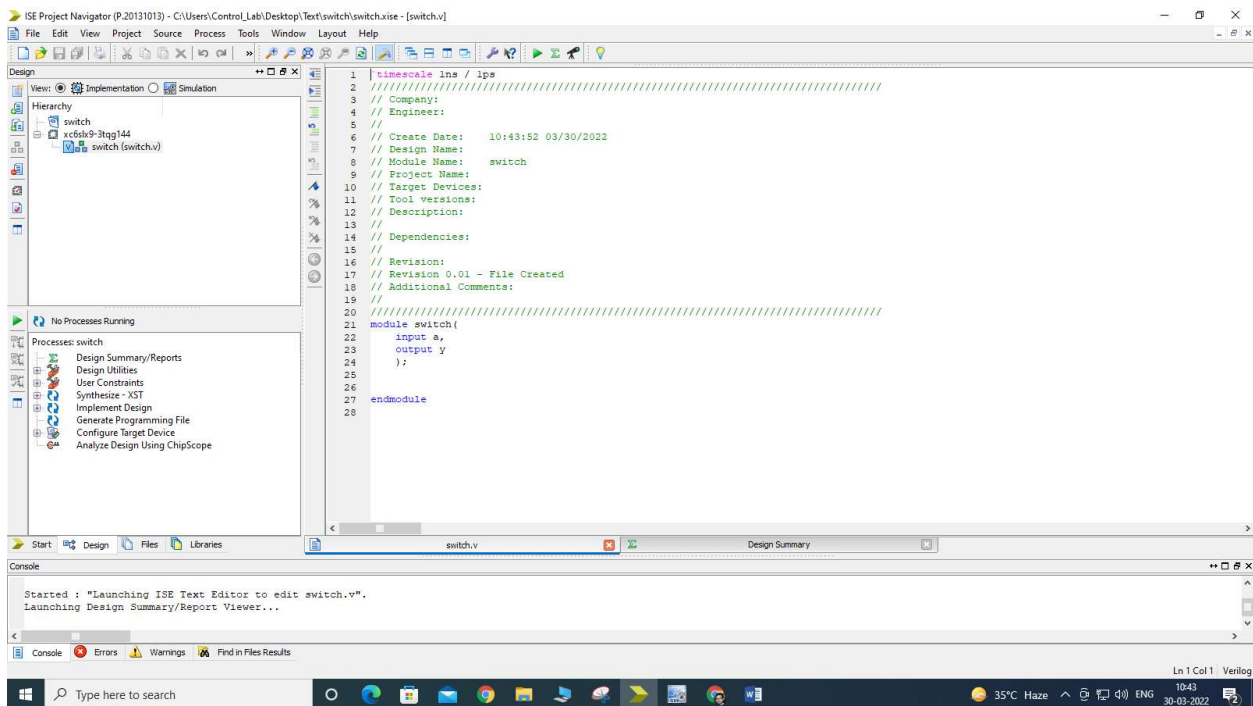

Fig 1.9: Switch Structure in the workspace
11. In the **ISE Text Editor**, a template of the Verilog source file, based on the information you provided while creating the new source, is already generated by Xilinx ISE Design Suite (Fig 1.9). Now you need to complete the source code for the switch. For the current experiment, data flow modeling style is used. You can also write the desired logic by using gate level or behavioral modeling style.